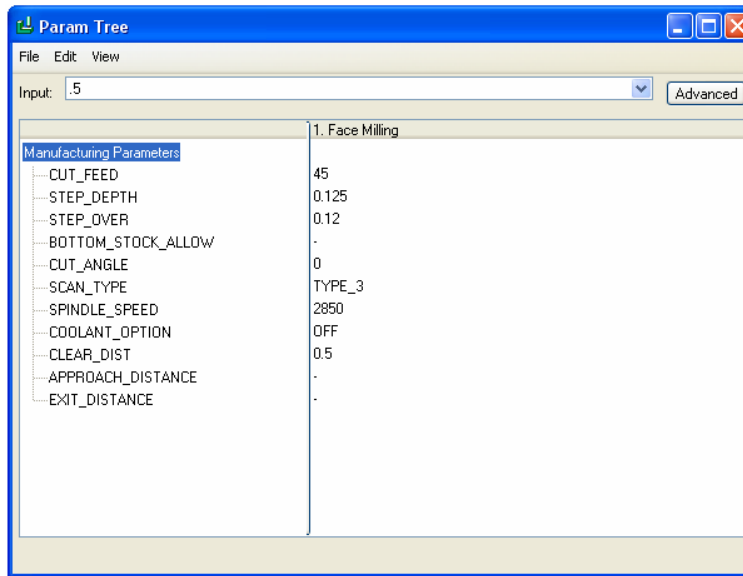

Figure 6c: Manufacturing Tool Parameters
Step 9: Enter the tool parameters shown in Figure 6c.
Step 10: After the values in Figure 6c are set, select **FILE >> EXIT** to save and exit the Parameter Tree dialog box.